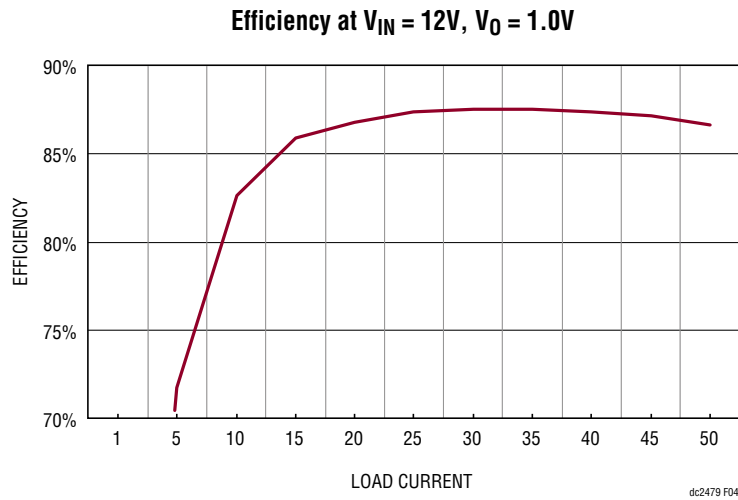

**Figure 2. Test Setup of DC2479A-B**
1. With power off, connect the input power supply, load and meters as shown in Figure 2. Preset the load to 0A and  $V_{IN}$  supply to 12V.